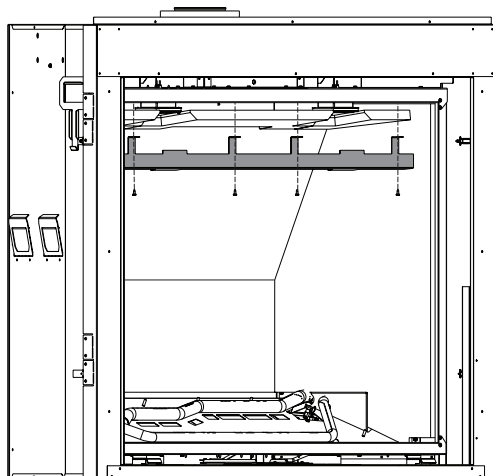

Figure 98
3. Remove the top liner bracket and top liner **See Figures 98 and 99.**